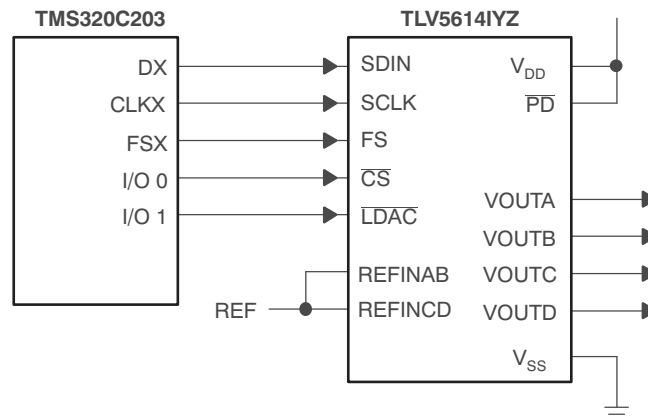

Figure 17. TLV5614IYZ Interfaced With TMS320C203
Figure 17 shows an example of how to connect the TLV5614IYZ to a TMS320C203 DSP. The serial port is configured in burst mode, with FSX generated by the TMS320C203 to provide the frame sync (FS) input to the TLV5614IYZ. Data is transmitted on the DX line, with the serial clock input on the CLKX line. The general-purpose input/output port bits I/O 0 and I/O 1 are used to generate the chip select (\overline{CS}) and DAC latch update (\overline{LDAC}) inputs to the TLV5614IYZ. The active low power-down (\overline{PD}) is pulled high all the time to ensure the DACs are enabled.